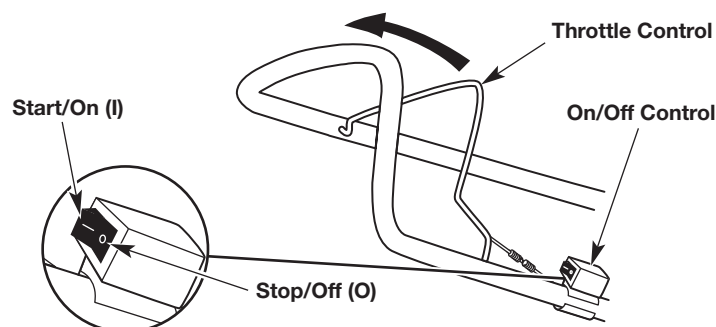

Fig. 4
**NOTE:** There is no need to turn the unit on. The On/Off Control is in the **ON (I)** position at all times (Fig. 4).
2. Press and hold the On/Off Control in the **OFF (O)** position until the unit comes to a complete stop (Fig. 4).